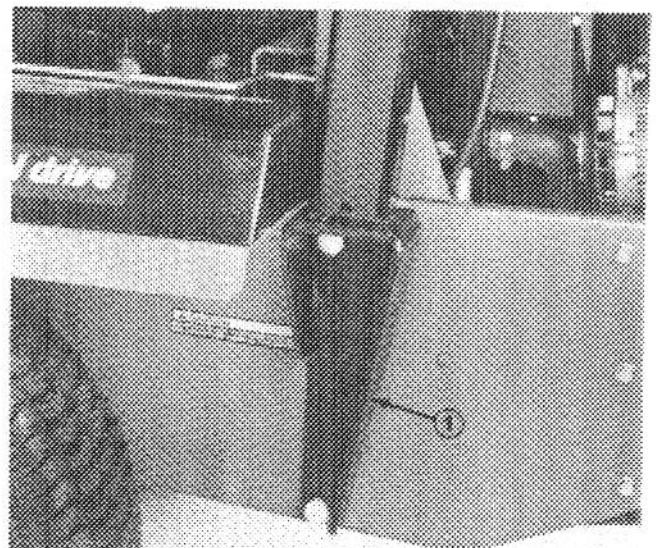

Figure 15
1. Lower roll bar onto frame, aligning mounting holes as shown in Fig. 15.
2. Secure roll bar to frame with (4) 3/4 x 3-1/2" lg. bolts, lockwashers, and nuts (Fig. 15). Tighten securely.